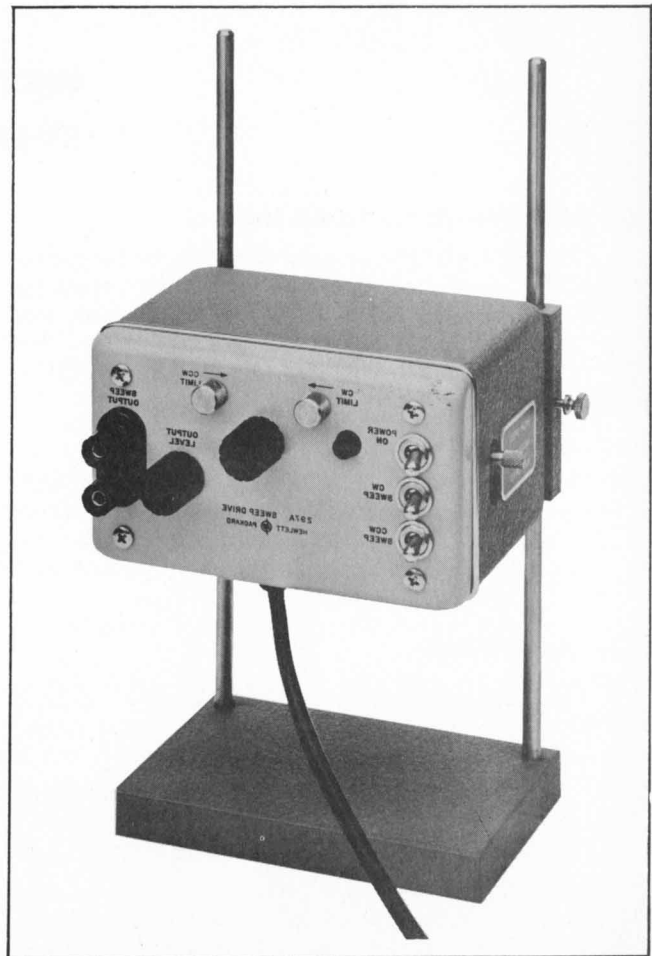

Figure 2-3. Model 297A Mounted on 11505A Bench Stand
- d. Slide the Model 297A mounting brackets over and down on the rods (see figure 2-3). Adjust the Model 297A to the proper height (make sure the output shaft